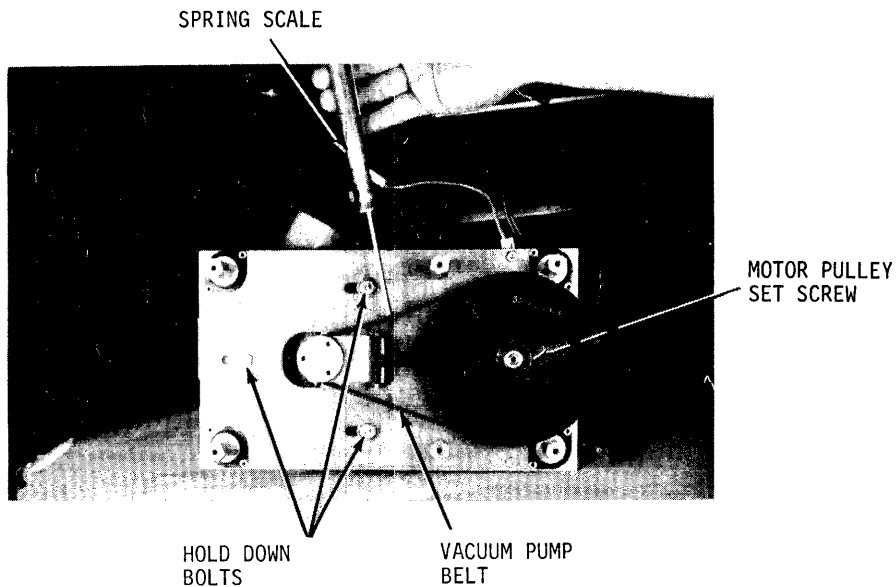

Figure 9-10. Vacuum Pump Belt Replacement
- g. LOOSEN the three bolts holding the vacuum pump in place, figure 9-10. Slide pump to loosen belt.